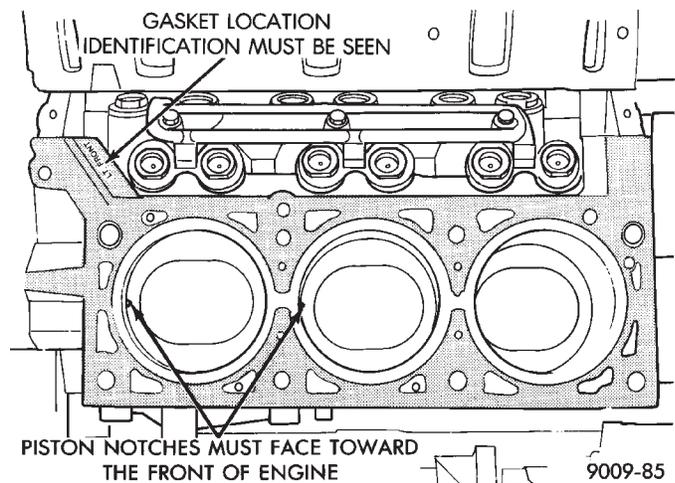

Fig. 15 Piston I.D. Notches
(5) Rotate crankshaft so that the connecting rod journal is on the center of the cylinder bore. Insert rod and piston into cylinder bore and guide rod over the crankshaft journal.
(6) Tap the piston down in cylinder bore, using a hammer handle. At the same time, guide connecting rod into position on connecting rod journal.
(7) The notch or groove on top of piston must be pointing toward front of engine (Fig. 15).
(8) Install rod caps. Install nuts on cleaned and oiled rod bolts and tighten nuts to 54 N·m (40 ft. lb.) Plus 1/4 turn.